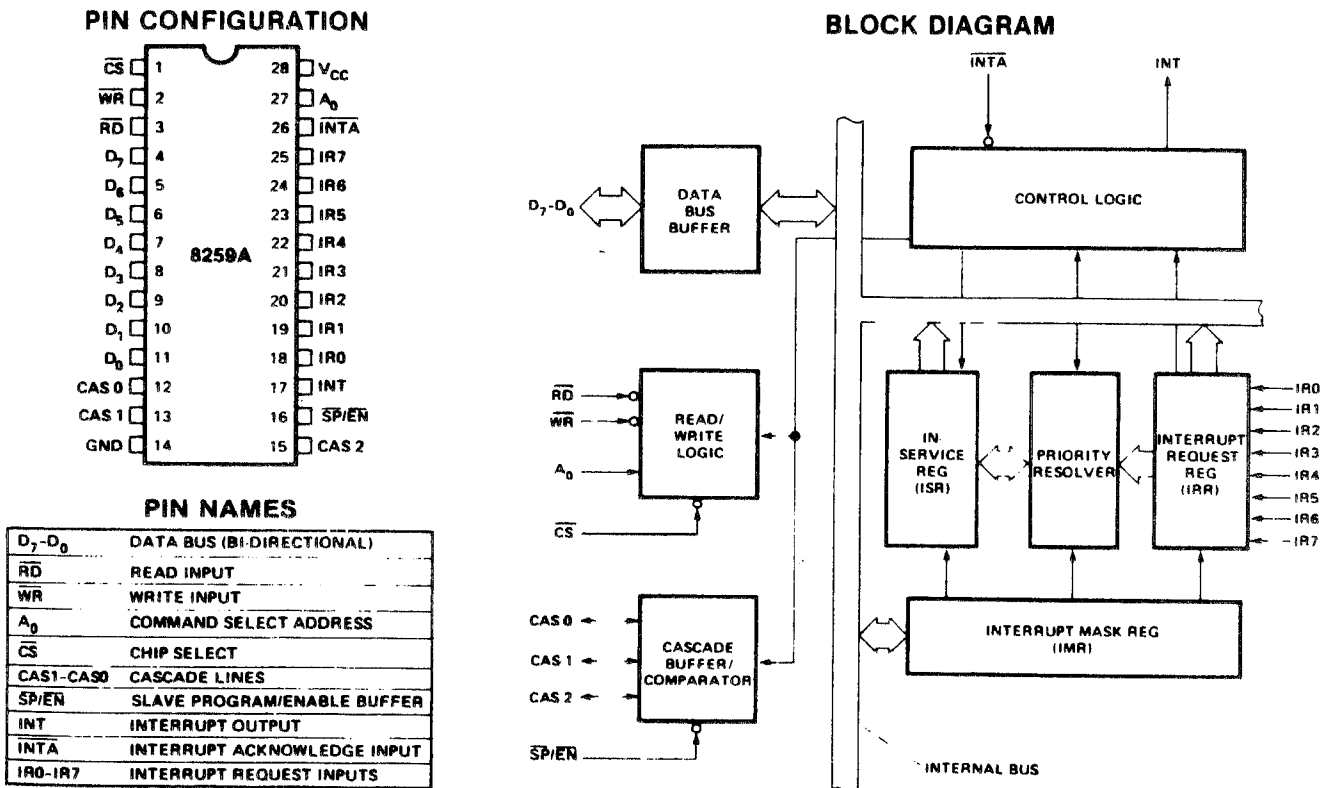

Figure 7. 8259A Block Diagram and Pin Configuration
A block diagram of the 8259A is shown in Figure 7. As can be seen from this figure, the 8259A consists of eight major blocks: the Interrupt Request Register (IRR), the In-Service Register (ISR), the Interrupt Mask Register (IMR), the Priority Resolver (PR), the cascade buffer/comparator, the data bus buffer, and logic blocks for control and read/write. We'll first go over the blocks directly related to interrupt handling, the IRR, ISR, IMR, PR, and the control logic. The remaining functional blocks are then discussed.